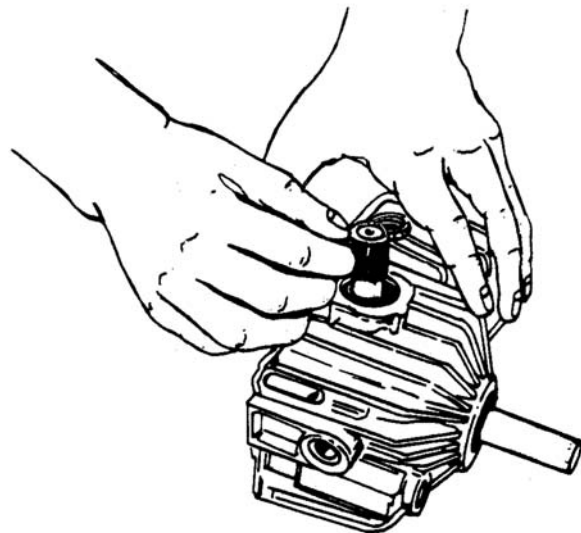

Figure 6-68. Covering Trunnion Arm With Tape
- b. Cover trunnion arm with thin tape to protect oil seal lip. See Figure 6-68.